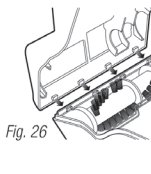

Fig. 26
- To reassemble, insert the tabs on the front edge of the bottom cover into the matching holes in the top half and tilt it back down until it clicks into place. (Fig. 26)